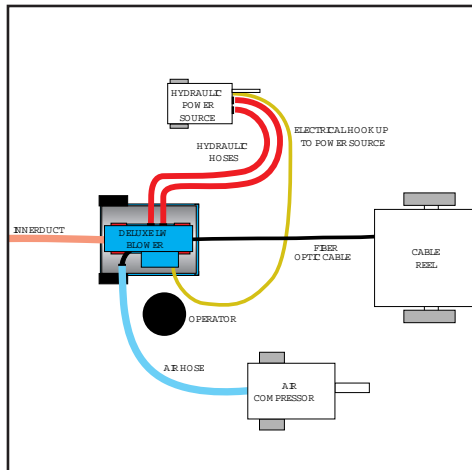

Figure 59. Typical Set-Up
B. CONNECT THE HYDRAULIC SYSTEMS (Figure 59)